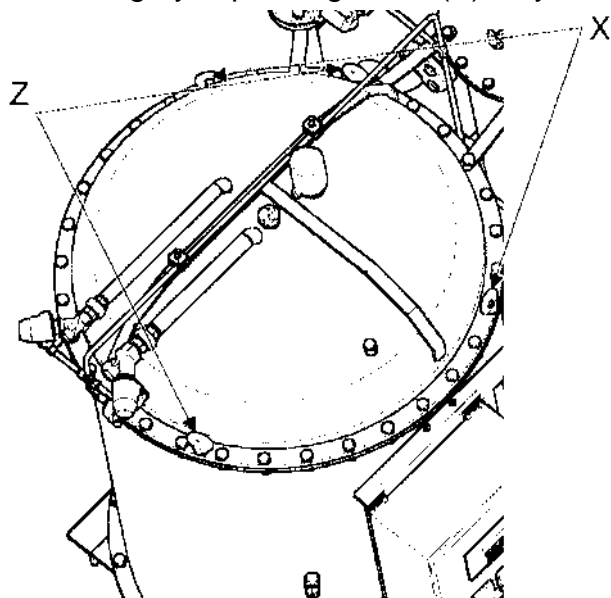

Fig. 7 Lifting eyes X and Z
Open the transport case by removing the top side first. Then remove the side walls. Pay attention to additional parts inside the case and keep them next to the unit. For lifting use a crane crossbeam and sling to the available lifting eyes (X) only (→Fig. 7).